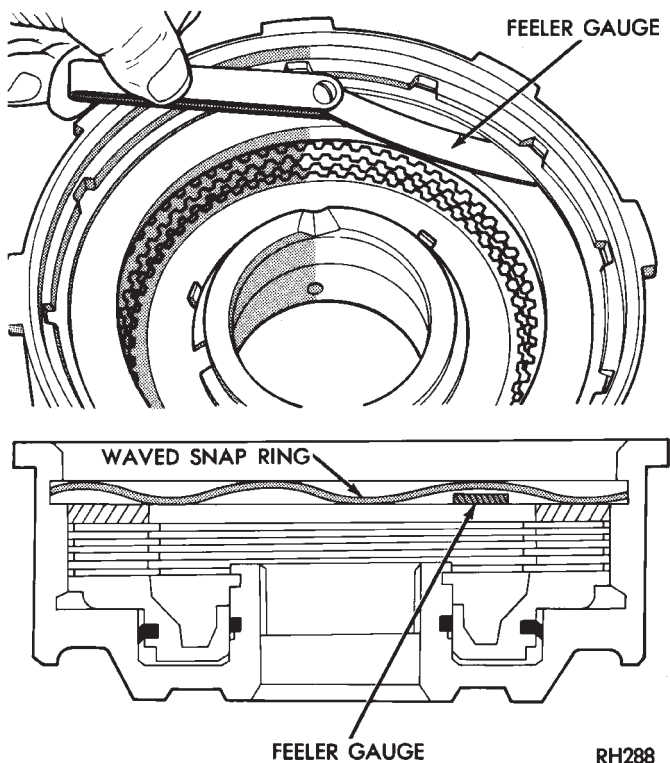

Fig. 59 Measuring Front Clutch Pack Clearance
(10) Check clutch plate clearance (Fig. 59). Clearance should be 1.70 to 3.40 mm (0.067 to 0.134 in.). If clearance is incorrect, clutch discs, plates pressure plates and snap ring may have to be changed.